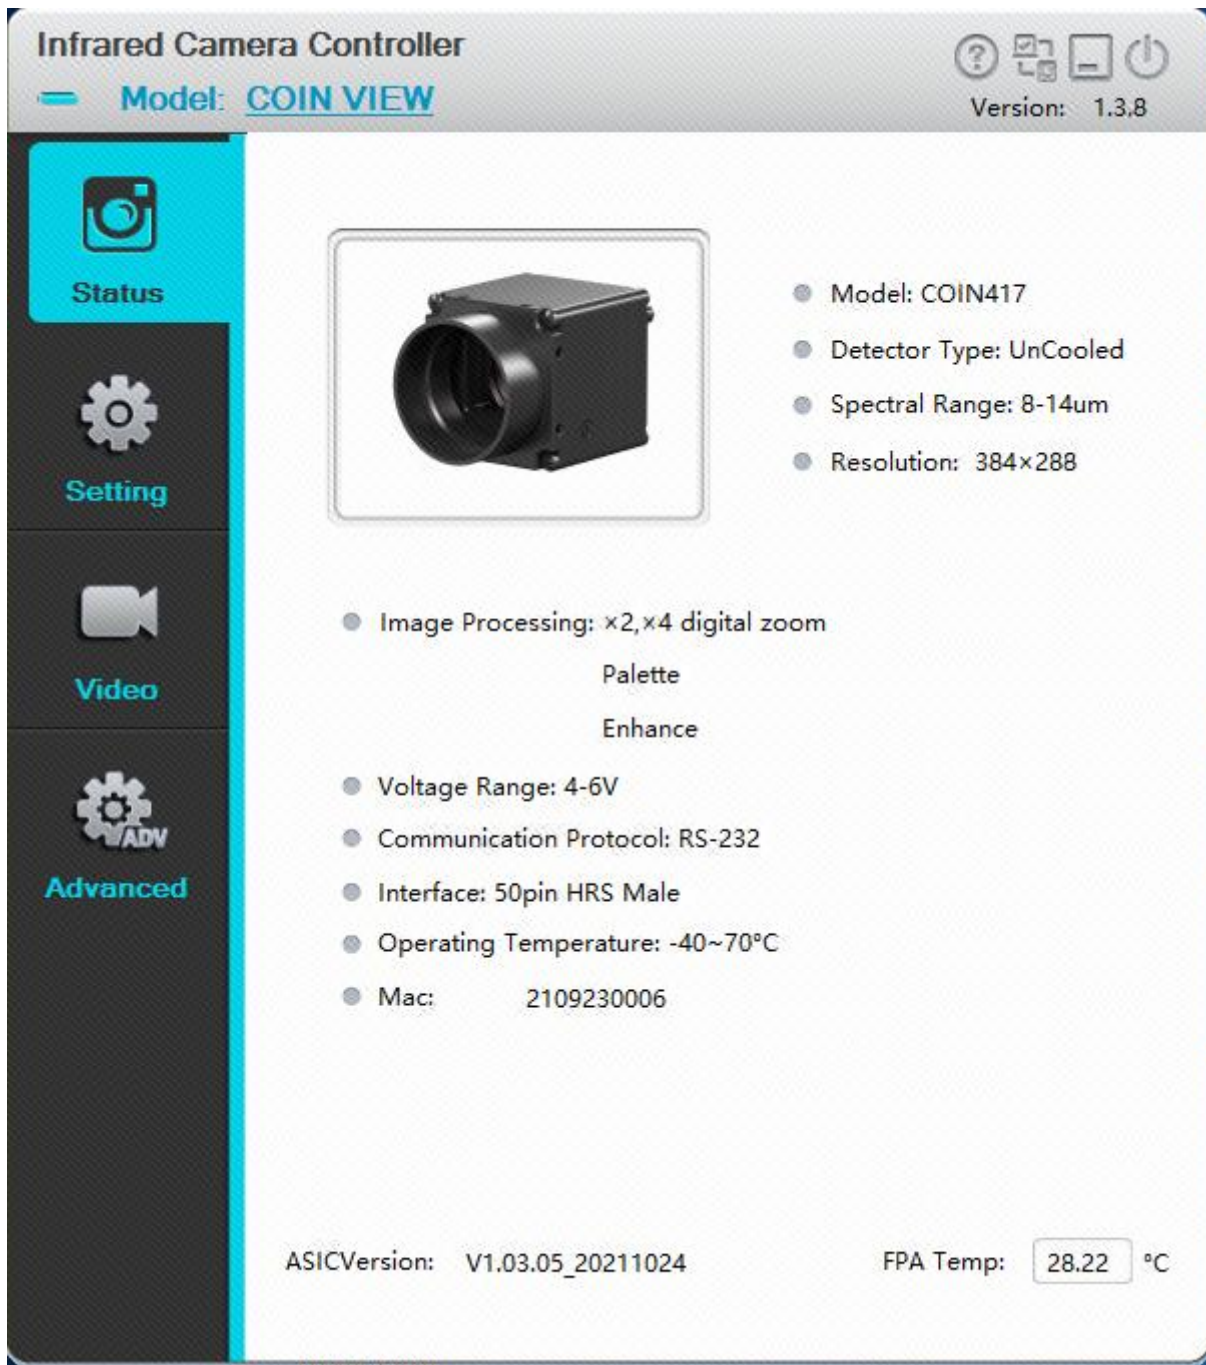

Fig. 4-12 Module status interface
1. Click the "Connect" to communicate with the module successfully, and then allow the software to enter the module status interface. The upper left corner of the interface shows the current connection status and module type, as shown in Fig. 4-12.